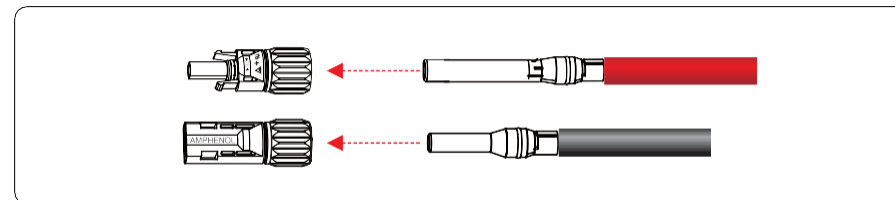

Figure 5.10 Connecting positive and negative connectors
**Step 3** Insert the crimped positive and negative power cables into the corresponding positive and negative connectors until a "click" sound is heard, as shown in Figure 5.10.